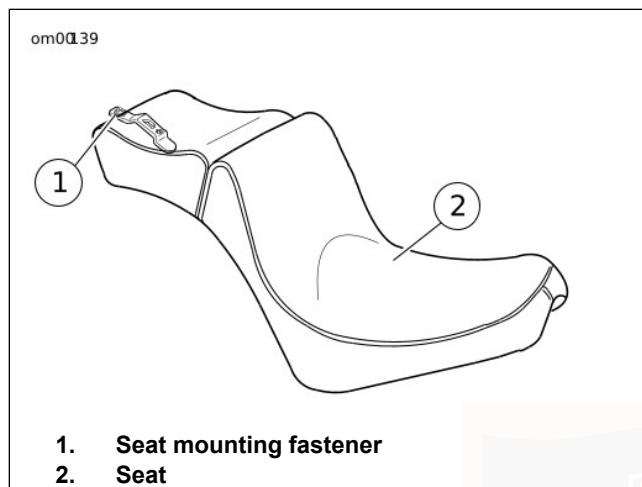

Figure 89. Seat: FX Softail Models
1. See Figure 89. Remove seat mounting screw from top of rear fender.